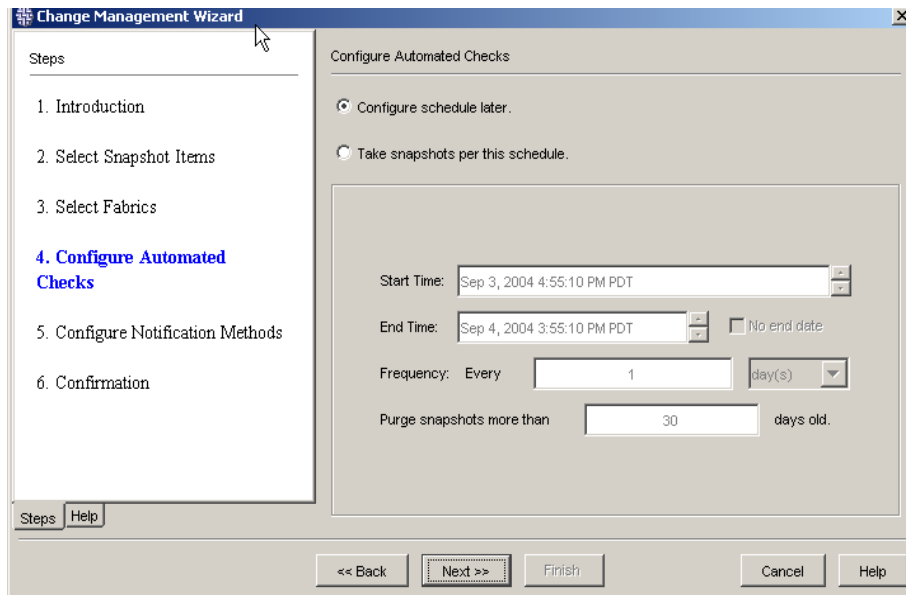

Figure 136 Configure Automated Checks window
8. After establishing a login to each switch in the selected fabric (if necessary), the Configure Automated Checks window opens (see Figure 136).
The Configure Automated Checks window opens (see Figure 136 on page 211).
The Configure Automated Checks window opens (see Figure 136 on page 211). If you do not want to change the schedule, click **Configure schedule later** and then click **Next** and skip to step 15.